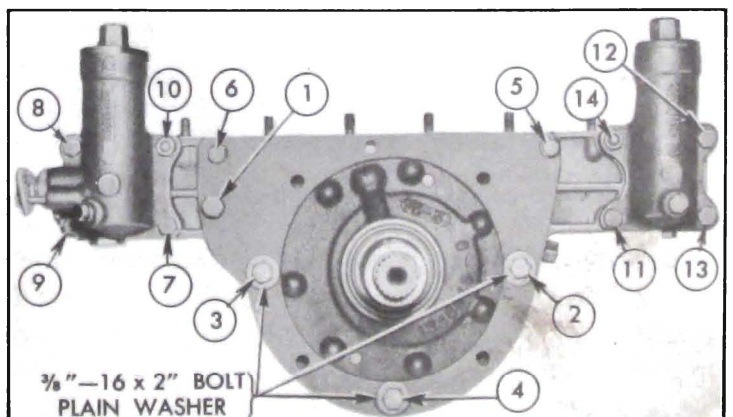

Figure 5-97—Reaction Shaft Flange and Accumulator Bolt Tightening Sequence
5. Install 3 special bolts ( $\frac{3}{8}$ "-16x2") with plain washers in positions marked 2, 3, 4 in figure 5-97. These bolts are for assembly purposes only. Install regular pump cover bolts and lockwashers at positions marked 1, 5, 6. Coat threads of bolts No. 5 and 6 with Permatex No. 3.
14. Referring to figure 5-97, tighten all bolts and nuts (1 through 14) to 5 ft. lbs. torque in the numerical sequence shown. Following the same sequence again, tighten bolts 1 through 4 to 35-40 ft. lbs. and the remaining bolts and nuts to 20-25 ft. lbs.